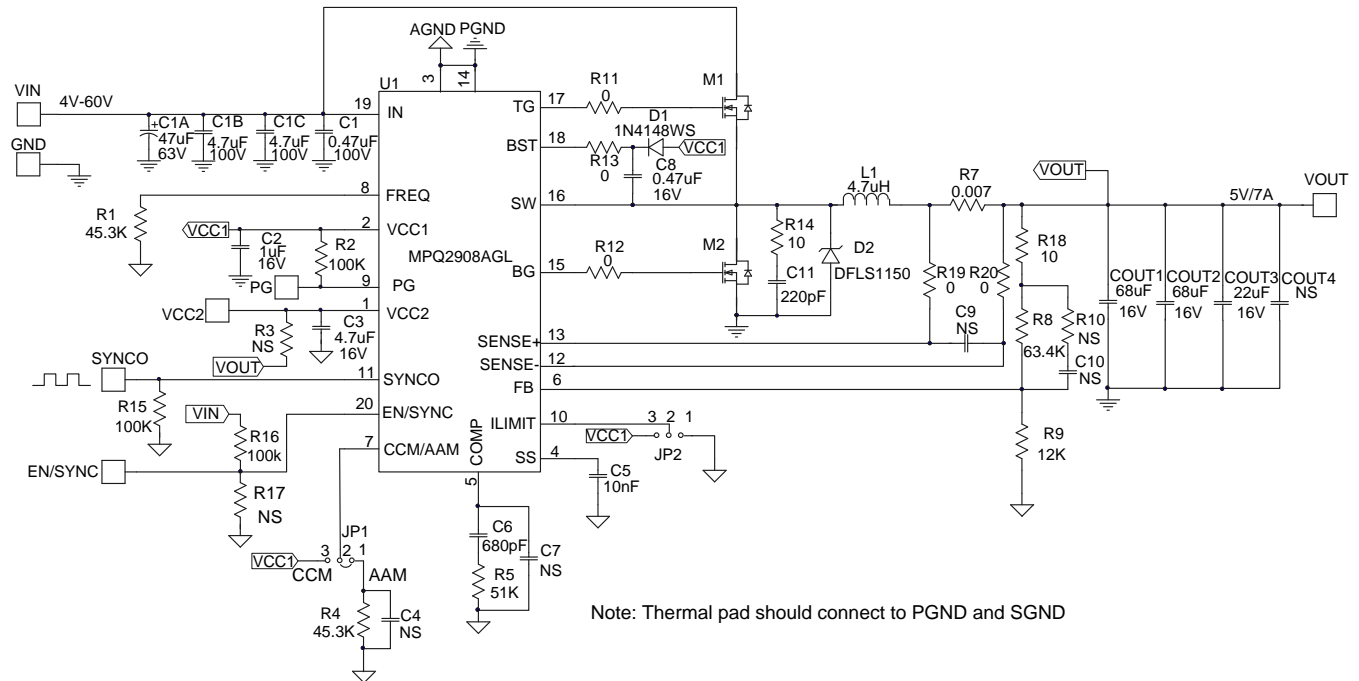

Figure 15: 5V Output Application Circuit for QFN Package
- 7) The recommended PCB layout is based on Figure 15.